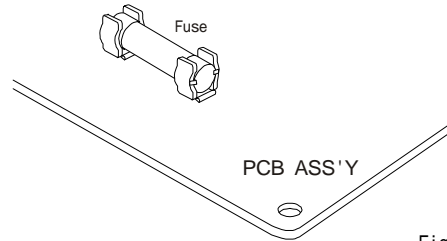

Fig.1
- 1) Remove the PCB ASS'Y from the electrical component box..Then pull out the fuse from the PCB ASS'Y (Fig.1)